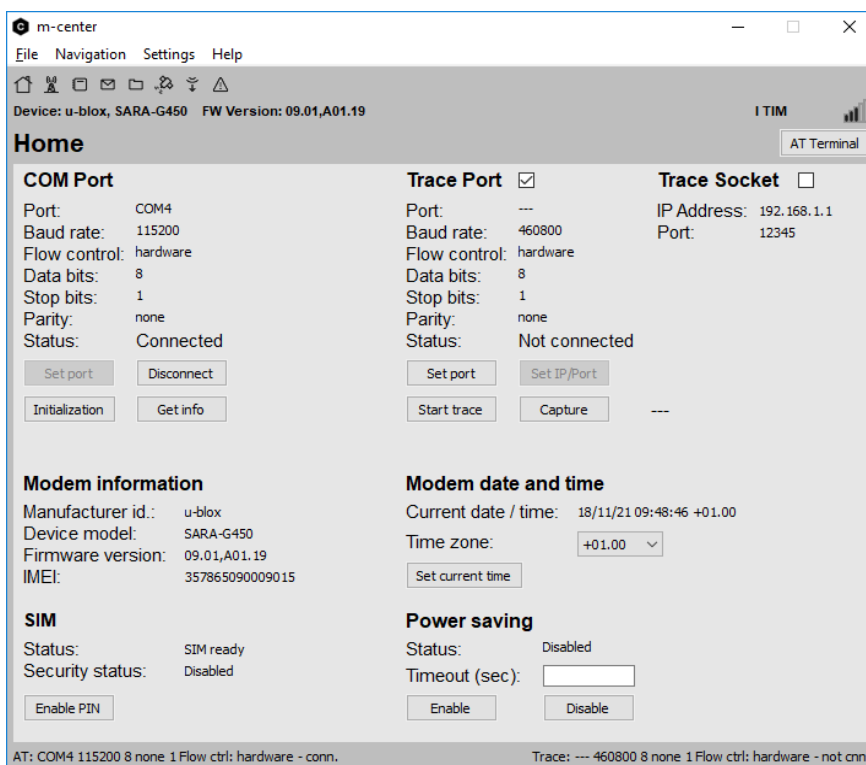

Figure 11: m-center Home page
2. Run the u-blox m-center tool: after the m-center start-up, the **Home** page appears, as shown in Figure 11.